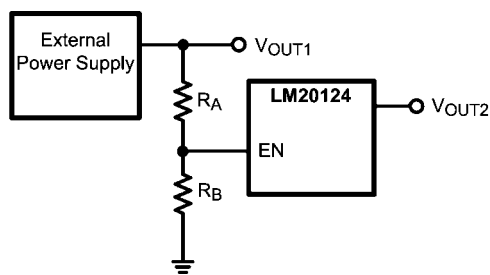

FIGURE 6. Sequencing LM20124 with Precision Enable
The precision enable (EN) and power good (PGOOD) pins of the LM20124 can be used to address many sequencing requirements. The turn-on of the LM20124 can be controlled with the precision enable pin by using two external resistors as shown in *Figure 6*.